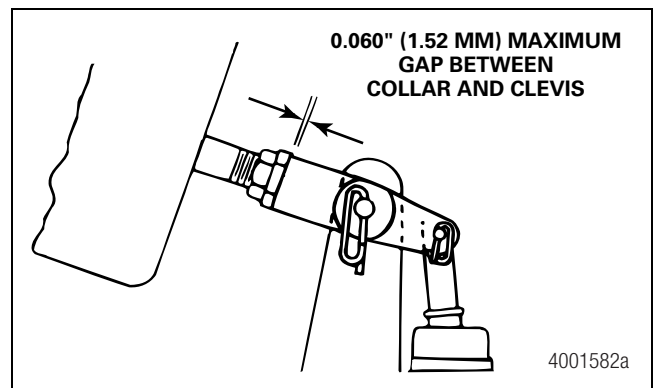

**Figure 6.4**
- Remove the slack adjuster from the camshaft. Figure 6.4.